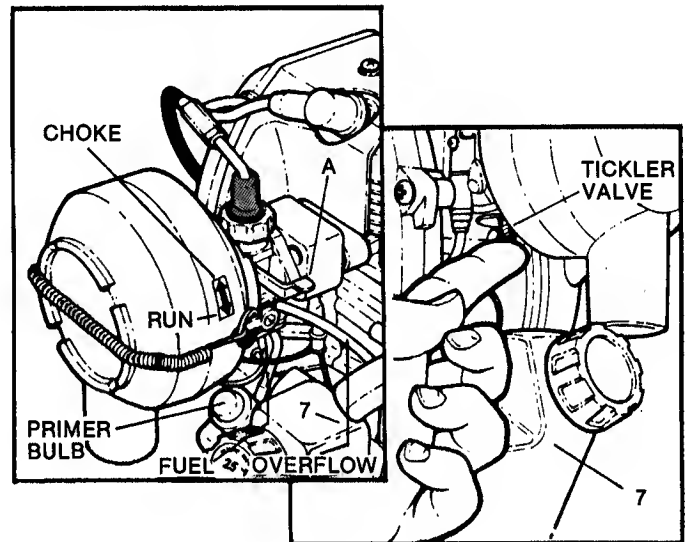

FIG. 3 - PRIMING THE ENGINE
1. Pump the primer bulb on FUEL TANK (7), while holding the tickler valve in until fuel starts flowing through overflow tube as shown in FIG. 3. Priming is not required with a warm engine. **NOTE:** Failure to hold tickler valve in while priming will flood the engine.